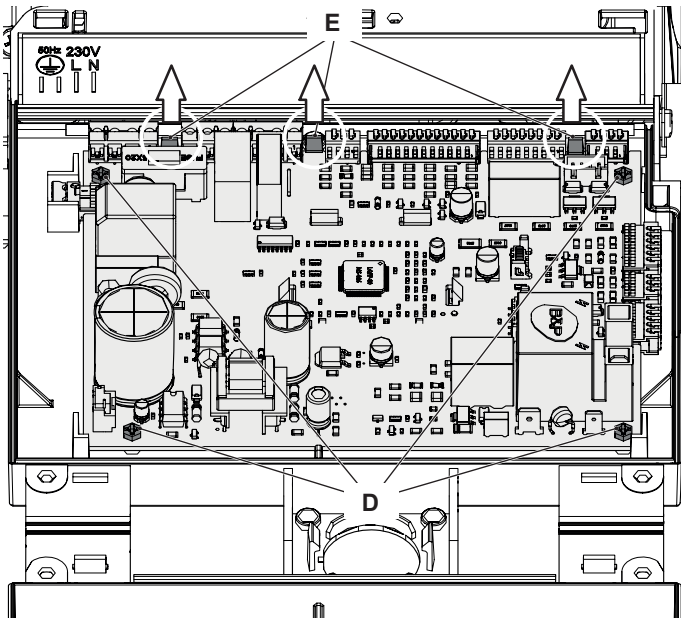

Figure 9.11
- 3 Unscrew the screws "D" (Figure 9.11).
- 4 Delicately flex the hooks "E" in the directions indicated (Figure 9.11) in order to release the circuit from the box.